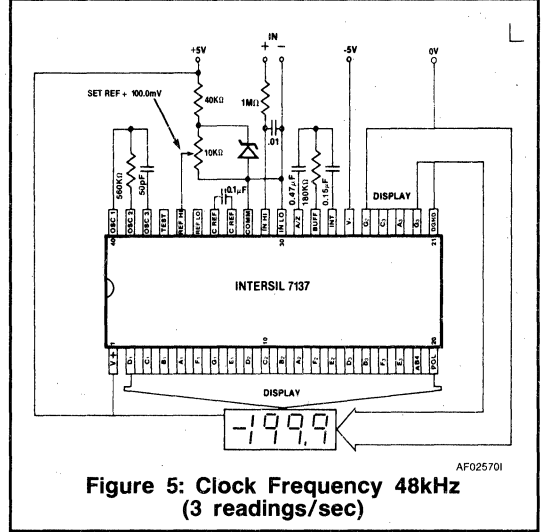

Figure 5: Clock Frequency 48kHz (3 readings/sec)
5. 48kHz oscillator, Figure 5, increases current by  $35\mu A$  (typ).